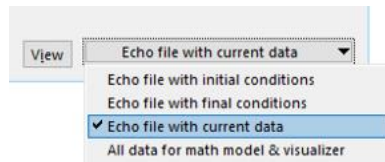

Figure 2. Drop control next to View button on Run Control screen.
- In some cases, the simulation terminates before the end of the Echo file gets written. If this happens, use the drop-down control in the lower-right corner of the Run Control screen to select the option Echo file with current data (Figure 2). Then click the **View** button. The Browser will cause the VS Math Model to generate an Echo file without making a run, using the current data. Inspect the Echo file, checking names of Import variables, Export variables, and other names in the Echo file. Compare these with the Echo file that exists in the old database copy that was not updated.